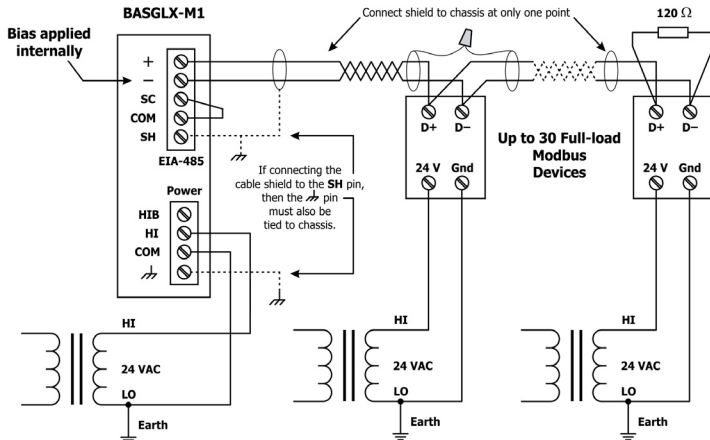
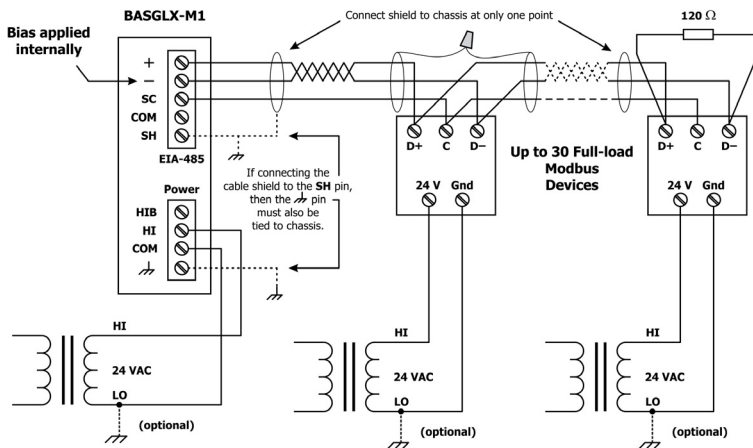

Figure 8: 2-wire RS-485 Bus with Separate Power Source
Figure 9: 3-wire RS-485 Bus with Separate Power Source
For devices that do not share power with this product, see Figure 8 for correct 2-wire bus connections and Figure 9 for proper 3-wire bus connections.
Figure 8 shows a simplified schematic of the isolated RS-485 transceiver. Note that the transceiver common (SC) is electrically isolated from the gateway power supply common (COM) through the use of opto-isolators and an isolated DC-DC converter. An isolated RS-485 transceiver offers less chance of damage to the transceiver from high common-mode voltages, but there is still a risk. Surge suppression is applied between the two differential inputs and between each input and ground. Since the transceiver is electrically isolated, the transceiver circuit common must be brought out for connection to the other devices on the RS-485 network. This is accomplished by pin SC. The differential pair is labelled + and –, and requires a three-wire connection to the RS-485 network. Connecting other isolated RS-485 devices is not a problem, as each device requires a 3-wire connection. Simply make the corresponding connections.